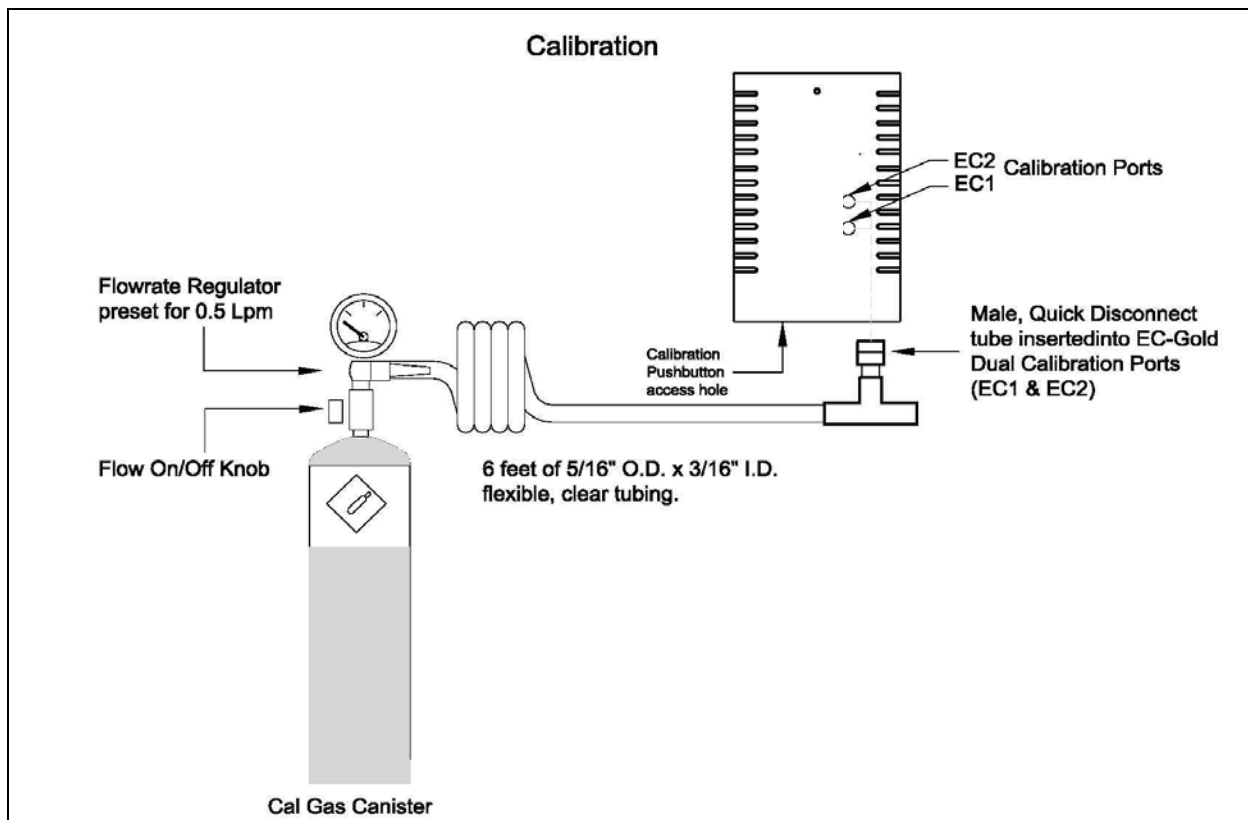

Figure 4.1
The **Calibration** pushbutton may be accessed using a screwdriver or other fine tool – See **Figure 4.1** for the location of the access hole.
2. The gas sensor is mounted directly behind the Calibration Port in the middle of the front plate of the EC-Gold Dual housing [See Fig. 4.1]. Insert the Quick Disconnect tube into the EC-Gold's Dual Calibration Port.
4. Press and hold the calibration pushbutton (via the access hole – see Fig. 4.1) until the Status LED glows orange acknowledging the calibration request. Release the pushbutton.